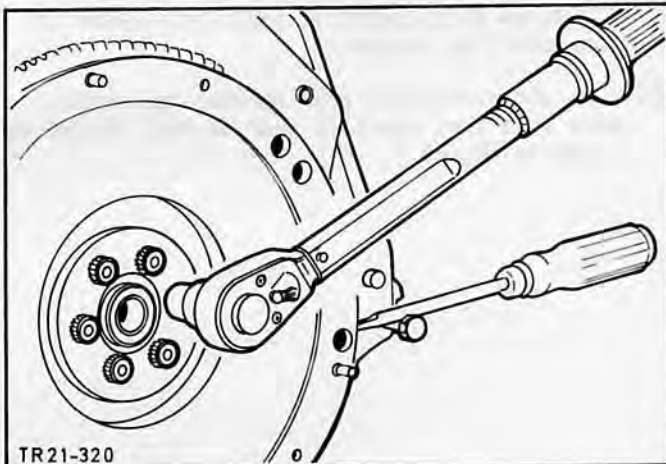

Fig.59. Fit flywheel.
47. Locate intermediate plate and secure in place. Fit flywheel, Fig.59, and tighten down to the specified torque.